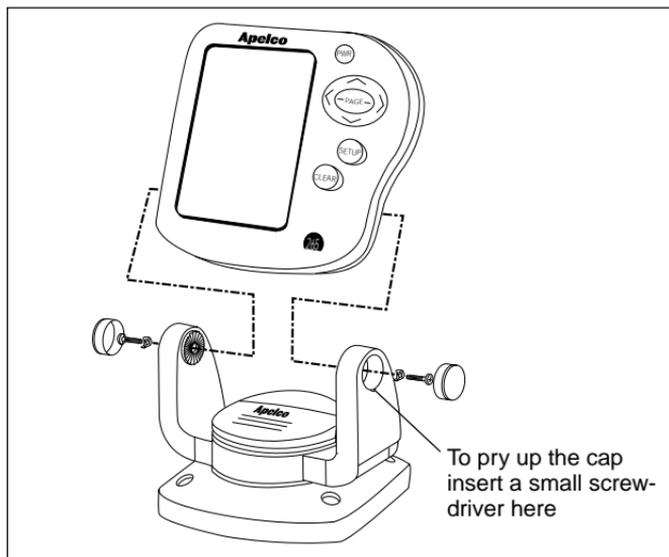

Fig. 2-11
6. Separate the display unit from the mounting bracket. (See Fig. 2-11.) Press the large button in the center of the bracket to separate the bracket arms. The display unit is attached to the arms by two screws. Each screw is covered by a cap. Locate the small slot beside each cap and pry upward using a small screwdriver. Remove the caps, then the two screws and the two wave washers. Save these parts in case you ever want to use the mounting bracket.